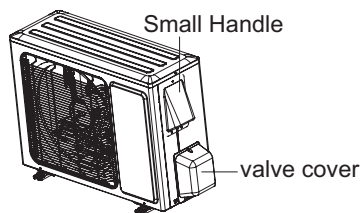

Fig.21
- (1) Remove the screw on the small handle and valve cover of outdoor unit and then remove the handle and valve cover.(As show in Fig.21)